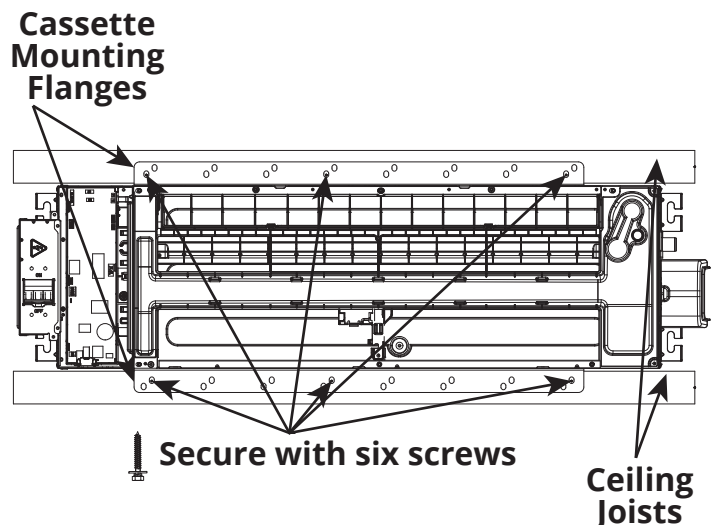

Fig. 5.13
3. Then, mount the unit to the ceiling joists by installing six ST8.0*50 screws (3 per side) through the holes of the unit mounting flanges and into the ceiling joists. Ensure the screws are fully threaded into the joist and will not loosen over time (see Fig 5.13). **NOTE: Eight ST8.0*50 screws provided, but only six are needed to complete this step. The remaining two screws are to be kept as spares.**